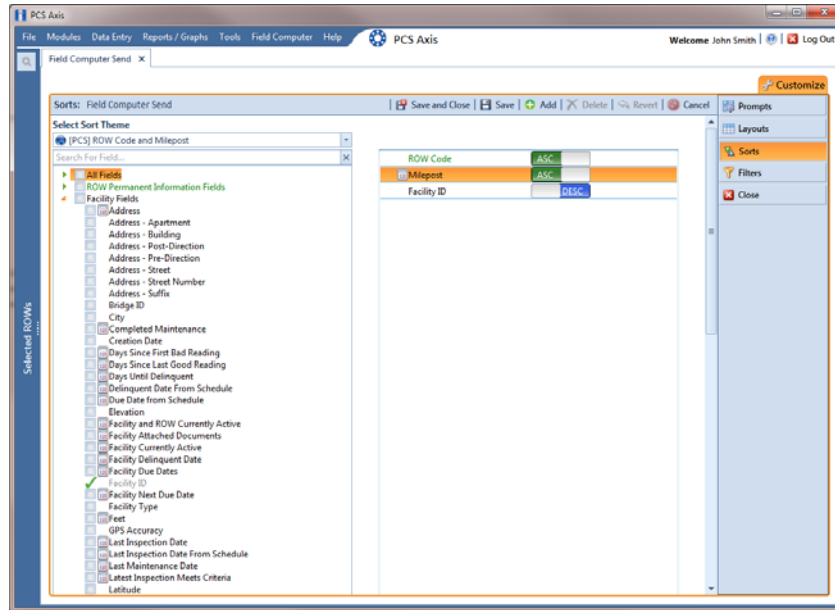

Figure 13-36. Sorts
- 8 Click  **OK** to save changes and return to the *Sorts* page (Figure 13-36, page 600).